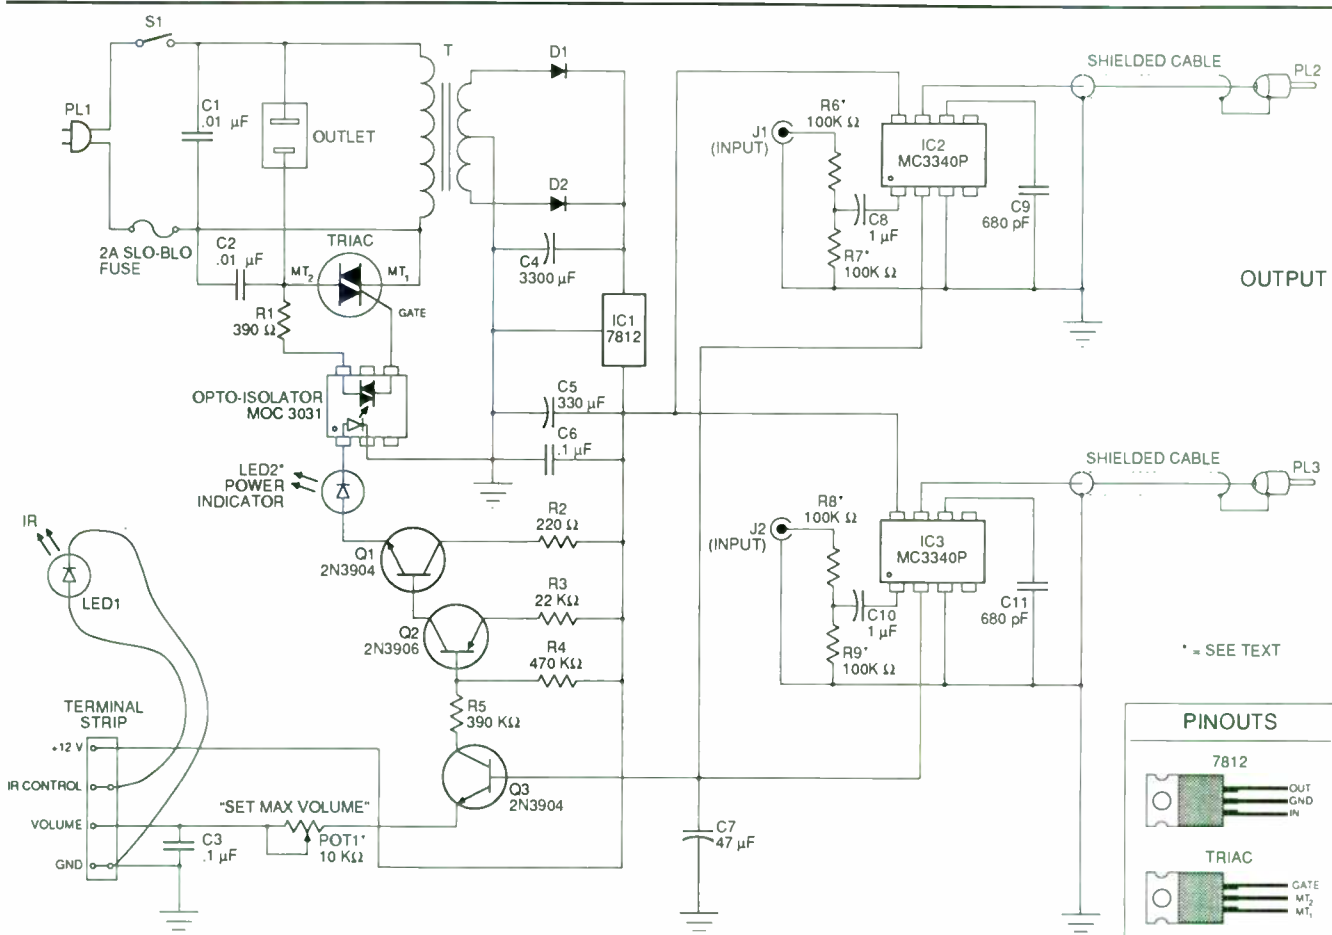

FIGURE 2: The base unit.
**THE BASE UNIT CIRCUIT.** The circuit for the base unit is shown in *Fig. 2*. The Motorola MC3340P is an inexpen-